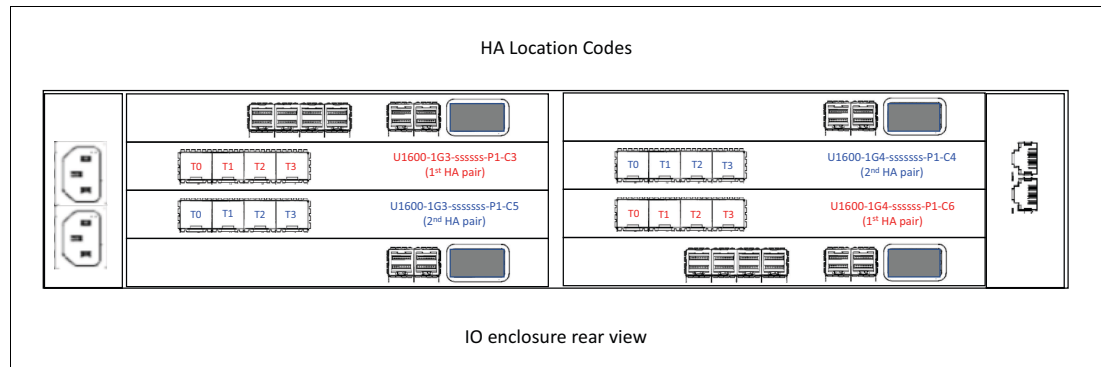

Figure 2-9 DS8882F Host adapter location codes
- Shown in red in Figure 2-9
- Shown in blue in Figure 2-9
The DS8882F fibre channel ports can be identified by the physical host adapter port location code identified in Figure 2-9 in the previous section. Table 2-4 shows the a cross reference of host adapter port physical location to fibre channel port ID for the first HA pair included with the base configuration.